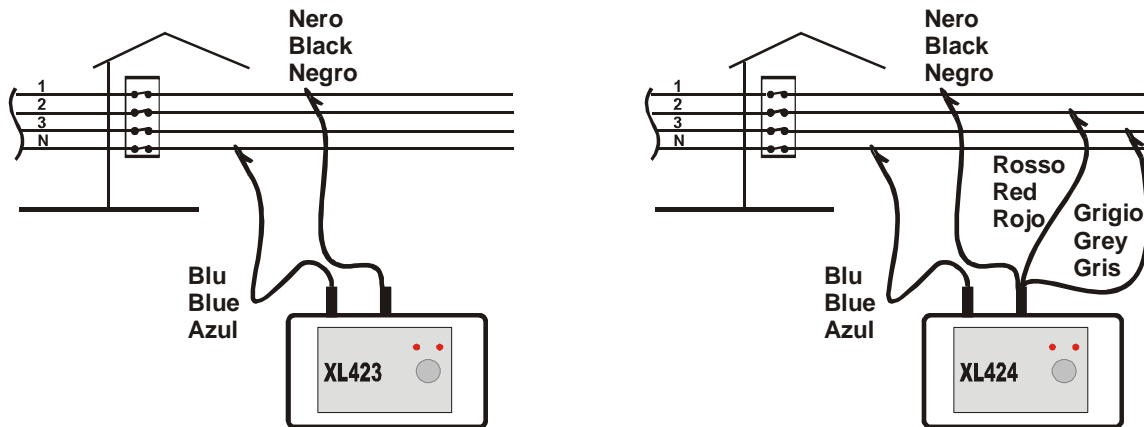

Fig. 3: Instrument's connection in Three Phase 4-wires plant
3. Connecting alligator clips in the plant as indicated in Fig. 3.